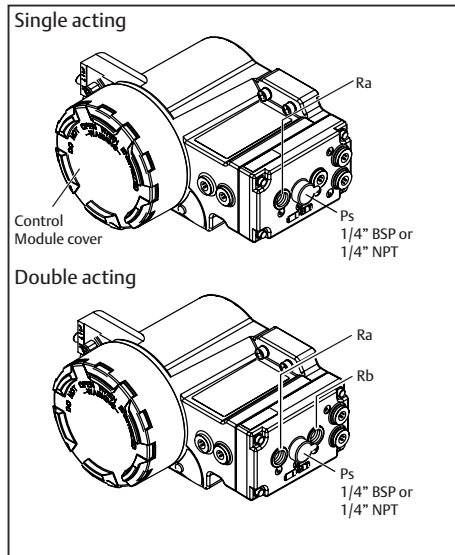

Fig. 3.1: Pneumatic connections
- 6 The exhaust ports Ra and Rb on the module (see Figure 3.1) are shipped from the factory with transport protection.